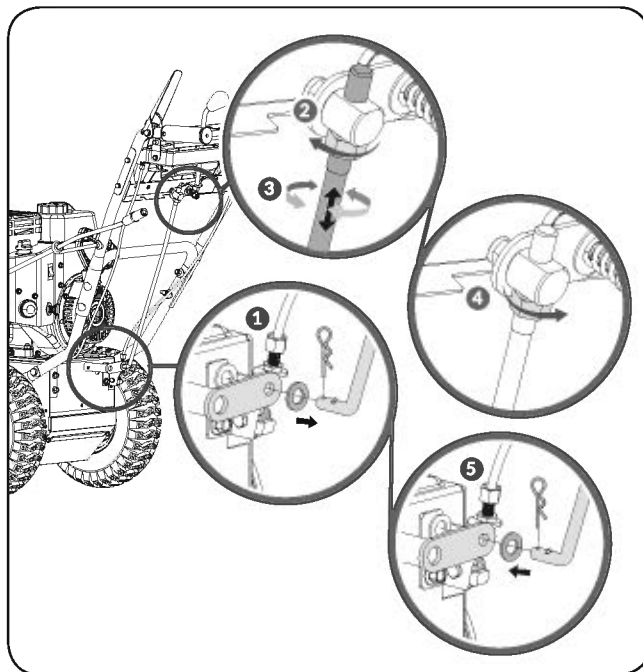

Figure 19
1. Disassemble the lower end of the shift rod from the shift arm. (See **Figure 19 #1**)
2. Loosen the lock nut in the upper end of shift rod. (See **Figure 19 #2&3**)
3. When the reverse position wrongly becomes to forward, rotate the shift rod counterclockwise for 1-3 turns. When the forward position wrongly becomes to reverse, rotate the shift rod clockwise for 1-3 turns. (See **Figure 19 #3**)
4. Fasten the lock nut in the upper end of shift rod. (See **Figure 19 #4**)
5. Assemble the the lower end of the shift rod to the shift arm. (See **Figure 19 #5**)